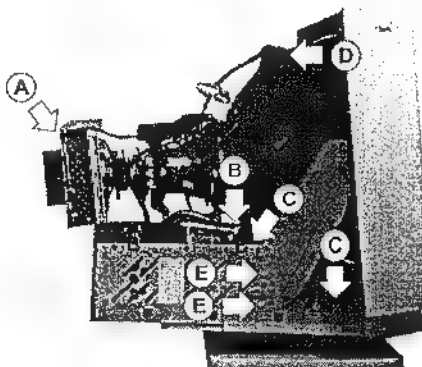

Figure 2-5 Remove the Neck Board (left side)
4. Disconnect the ground wire from the neck shield. Refer to the figure 2-5 (A).
5. Release the cord crammer from the FBT cover. Refer to the figure 2-5 (B).
6. Remove the two connected pins from the main board. Refer to the figure 2-5 (C).
7. Remove the anode cap from the CRT. Refer to the figure 2-5 (D).
2. Remove the two screws from the shield. Refer to the figure 2-5 (E).